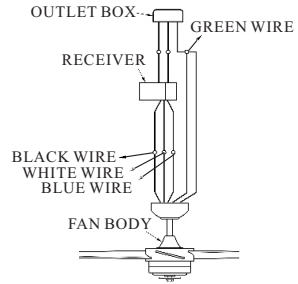

FIG.8
2. Connect the white wire from receiver to the white wire from fan with wire nut. Connect the black wire from receiver to the black wire from fan with wire nut. Connect the blue wire from receiver to the blue wire from fan with wire nut. Connect the green wire from ceiling, and green wire from hanger bracket with green wire from downrod ball with wire nut. (see Fig.8)